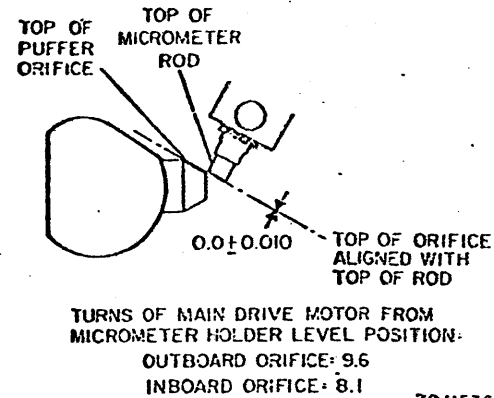

Fig. 3-181. Alignment of Puffer Orifice
9. Manually rotate the main drive motor counterclockwise 9.6 turns. The top of the micrometer rod will indicate the point where the outboard orifice of puffer manifold should be (Fig. 3-181).
15. Manually rotate the main drive motor counterclockwise 8.1 turns. The top of the micrometer rod will indicate the point where the inboard orifice of the puffer manifold should be (Fig. 3-181).